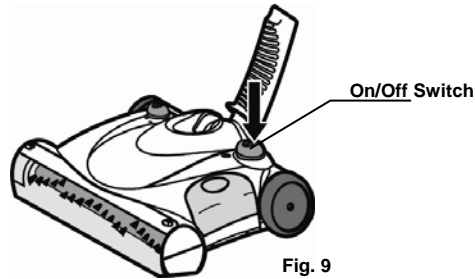

Fig. 9
1. Push the on/off switch to operate the unit. To turn "Off", press switch again. (Fig. 9)